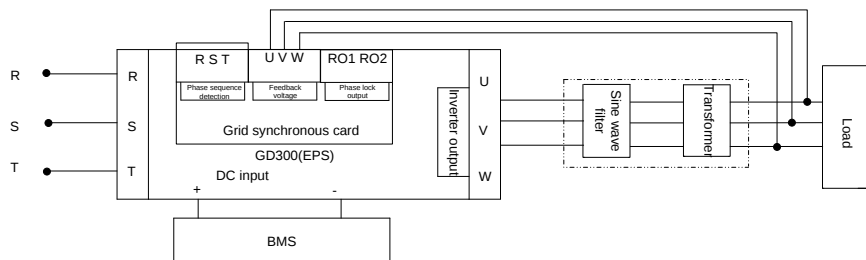

Figure 4.4 PID voltage closed loop
In PID adjustment application, as shown in Figure 4.4, feedback voltage is connected to the U, V, and W terminals of the grid synchronous card.
- Step 1 According to Fig 4-4 to connect feedback voltage wiring (The feedback voltage is directly connected to the terminal board UVW from the front of the load).